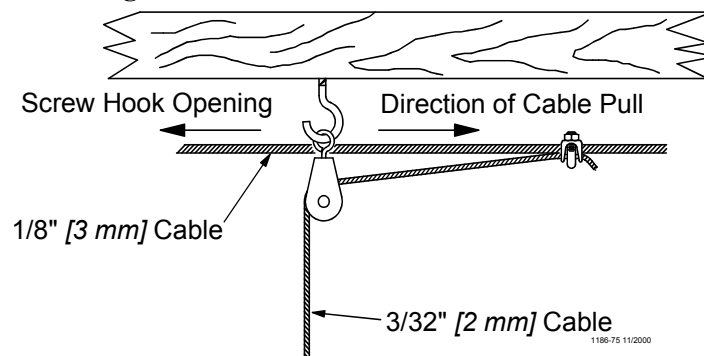

Figure 2. Screw Hook Installation (side view)
Screw the threads all the way in to prevent bending. The opening of the hooks must point away from the direction the cable pulls. See **Figure 2**.
3. After the Screw Hooks or Ceiling Hooks have been secured to the trusses, install the pulley assemblies as shown in **Figures 2 & 3**. Make sure the Screw Hooks or Ceiling Hooks are pointing in the proper direction (opposite the winch).